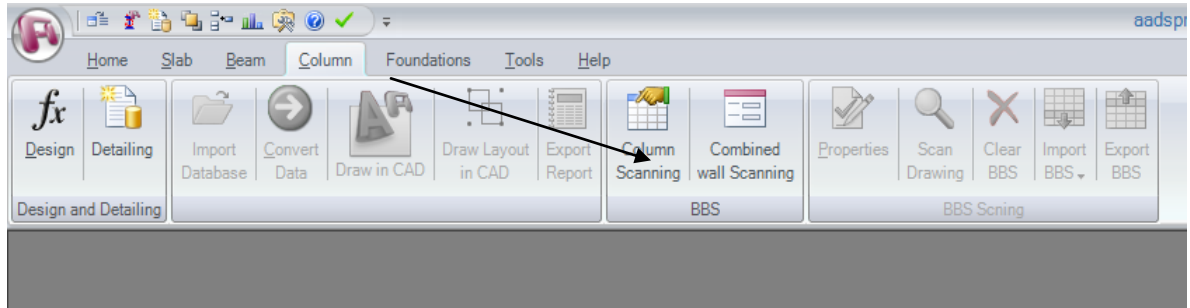

Fig 1.2.1
- Click on the 'Column Scanning' from tool bar (fig1.2.1)